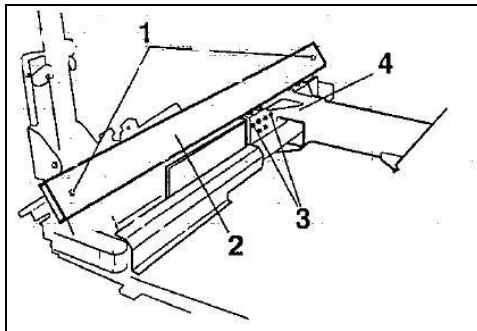

Fig.8.5
- c) Loosen the guard fixing screws (1 Fig.8.5), remove the chain guard (2 Fig.8.5).
- d) Loosen the nuts (3 Fig.8.5)for each upper slide shoe of the carriage (4 Fig.8.5).
- g) Tighten the four locking nuts of the upper slide shoes (3 Fig.8.5)
- i) Refit the guard on the chain V2 Fig.8.5).